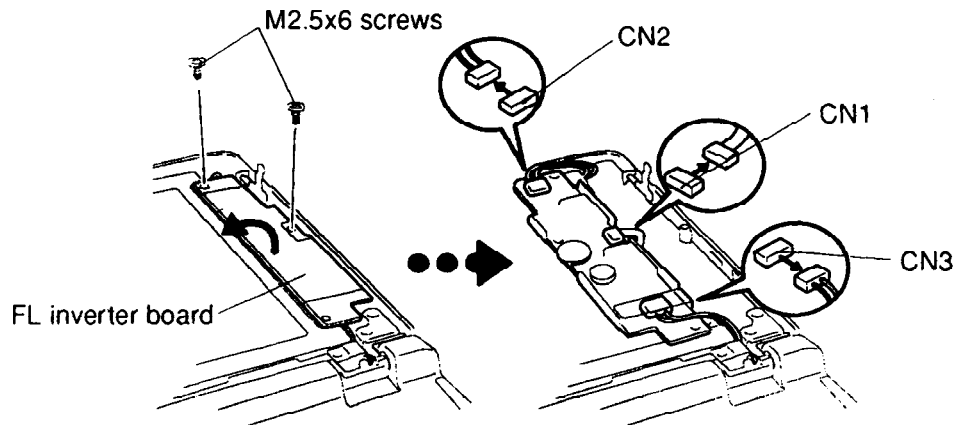

Figure 4-27 Removing the FL Inverter Board
4. Remove the **two M2.5x6 screws** securing the **FL inverter board** (Figure 4-27).
5. Carefully rotate the **FL inverter board** out from right to left and disconnect the **FL inverter cable** from **CN1** and the **two FL cables** from **CN2** and **CN3** (Figure 4-27).
1. Connect the **FL inverter cable** to **CN1** on the **inverter board** and the **two FL cables** to **CN2** and **CN3** (Figure 4-27).
3. Replace the **FL inverter board** and secure it with the **two M2.5x6 screws** (Figure 4-27).